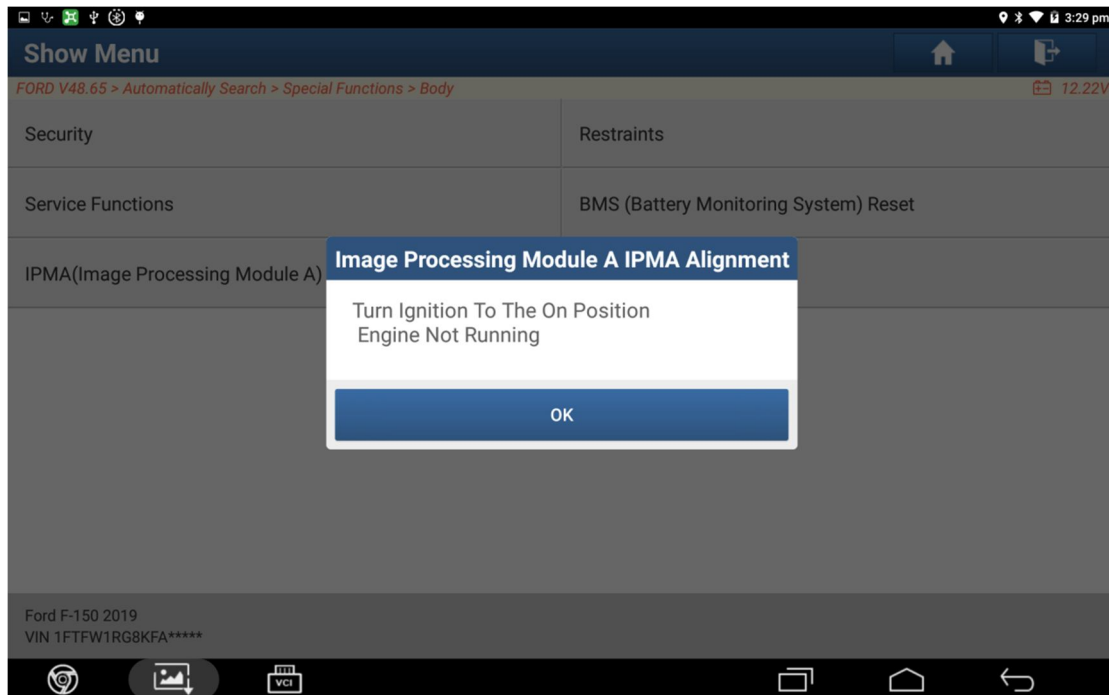

Figure 9
8. Prompt to switch ignition ON and do not start engine (Figure 9).